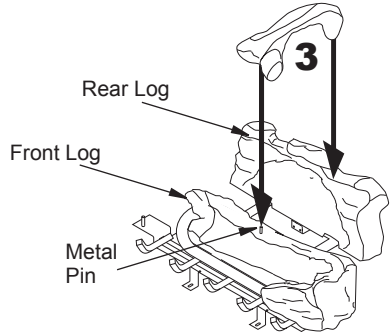

Figure 43 - Installing Log No. 3
3. Place log #3 (crossover log) onto rear and front logs. Make sure it is seated properly on surface of rear log and pin on front log as shown in Figure 43.